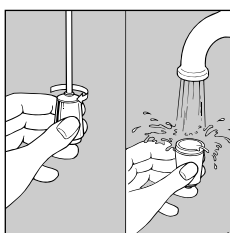

fig. 15
- By turning the steam knob (fig. 15), allow a little steam to come out for a few seconds.